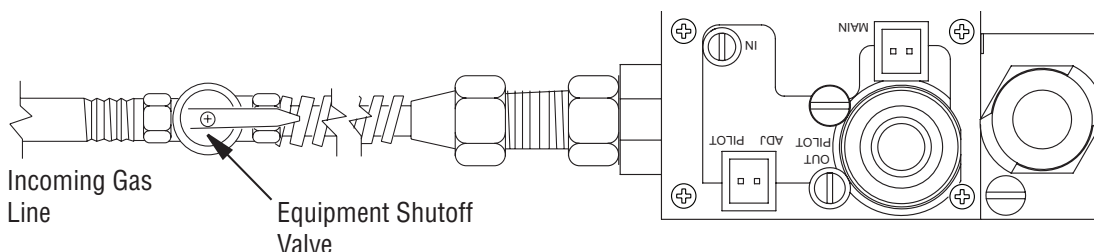

Figure 29 - Turning Equipment Shutoff Valve to the OFF Position
5. Turn equipment shutoff valve clockwise ↻ to the OFF position (see Figure 29). Do not force.
6. Wait five (5) minutes to clear out any gas. Then smell for gas, including near the floor. If you smell gas, STOP! Follow "B" in the safety information. If you don't smell gas, go to the next step.